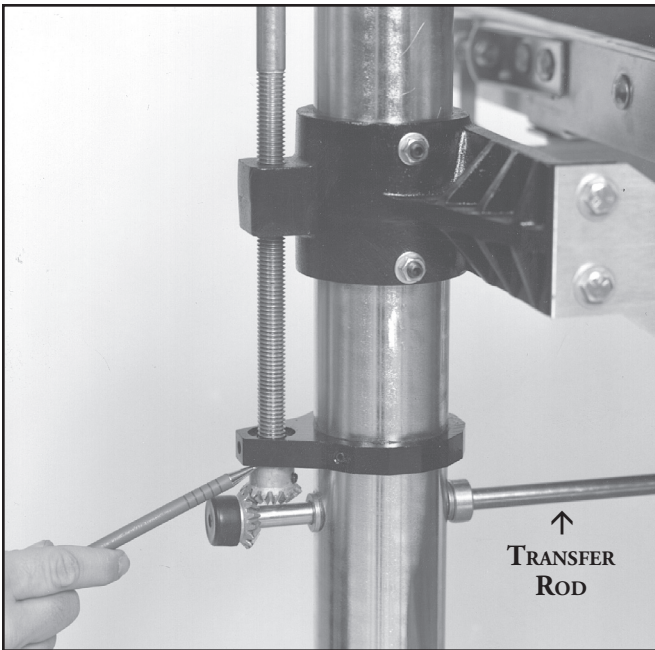

Fig. 15 Miter gear below adjusting screw support.
2. Lubricate thoroughly by applying penetrating lubricant to the table support castings where they contact the column tubes, and to all contact points of adjusting screws and transfer rod (Fig. 15). Also apply grease or oil to the miter gears.
4. The adjusting screw supports located immediately below the height adjustment handle and the left (outboard) brush support casting (Fig. 15) must both be set at the proper height along the column tubes so the height adjusting screws provide for